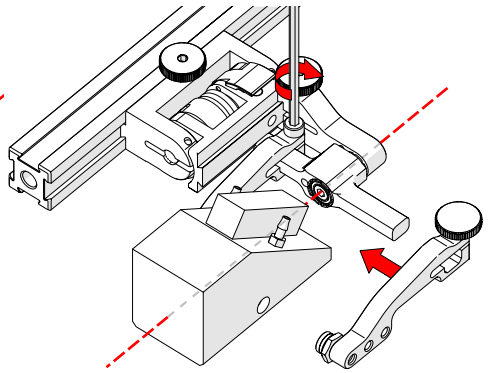

Fig. 49 - Place wedge
**TIP:** The probe holder yoke can accommodate many different probe and wedge sizes of varying widths. It is best to centre the wedge with the yoke's pivot axis to reduce wedge tipping when scanning. Position the inner probe holder arm with the yoke's centre (Fig. 49).
7. Position the wedge on the inner probe holder arm (Fig. 49).
8. Tighten the arm clamp screw (Fig. 49).